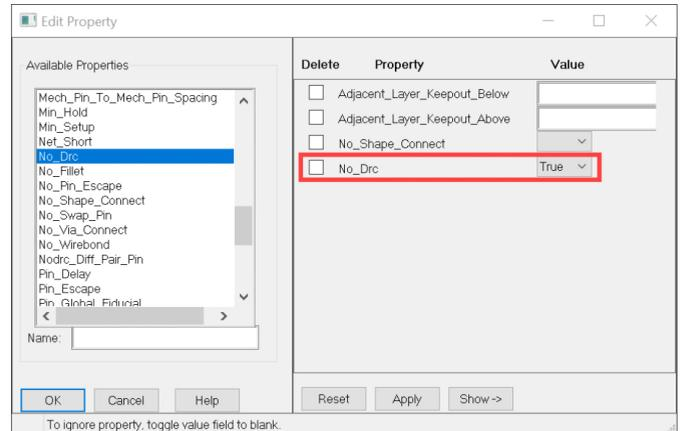

Figure 17: Adding the “NO_DRC” Property to the pins from the Edit Property dialog box.
- Add the “NO_DRC” property to the pins (Figure 17)